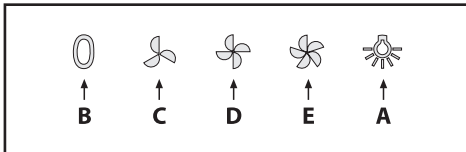

Fig.10
• **Commands mechanical (Fig.10)** the key symbols are explained below: